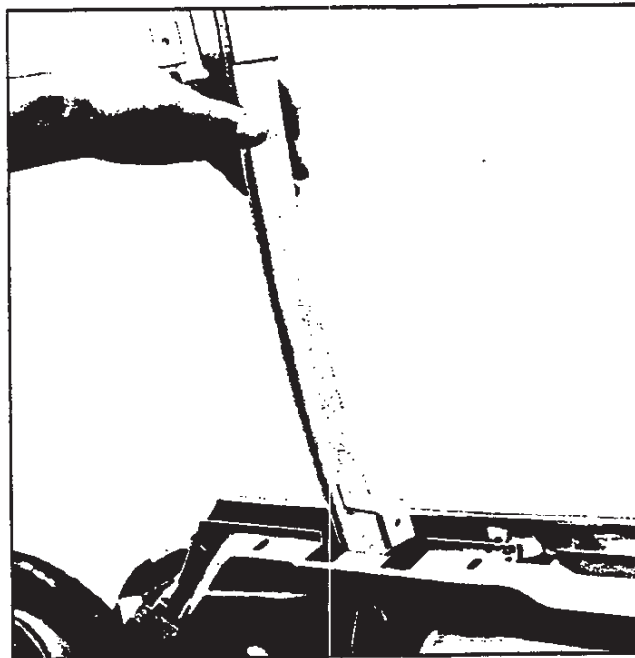

Fig. 27—Removing Front Glass Channel
3. Remove retaining screw at lower end of channel and two (2) screws retaining channel to top surface of door inner panel.
4. Remove two (2) screws retaining stationary horizontal guide channel.
7. Carefully lift channel through upper slot as shown in Figure 27 making certain to clear opening.